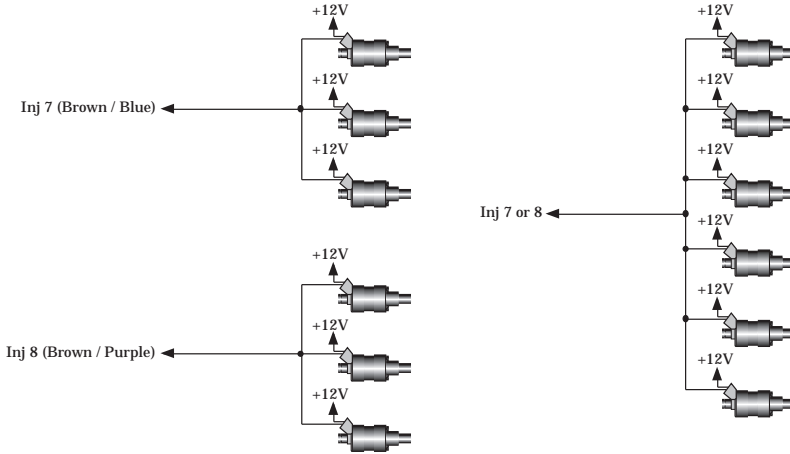

Figure 3.1. Group Fire wiring for 6 cylinders or less (High Impedance Injectors)
- For 6 cylinders or less, the injectors can be fired in a single or two-group configuration. See Figure 3.1